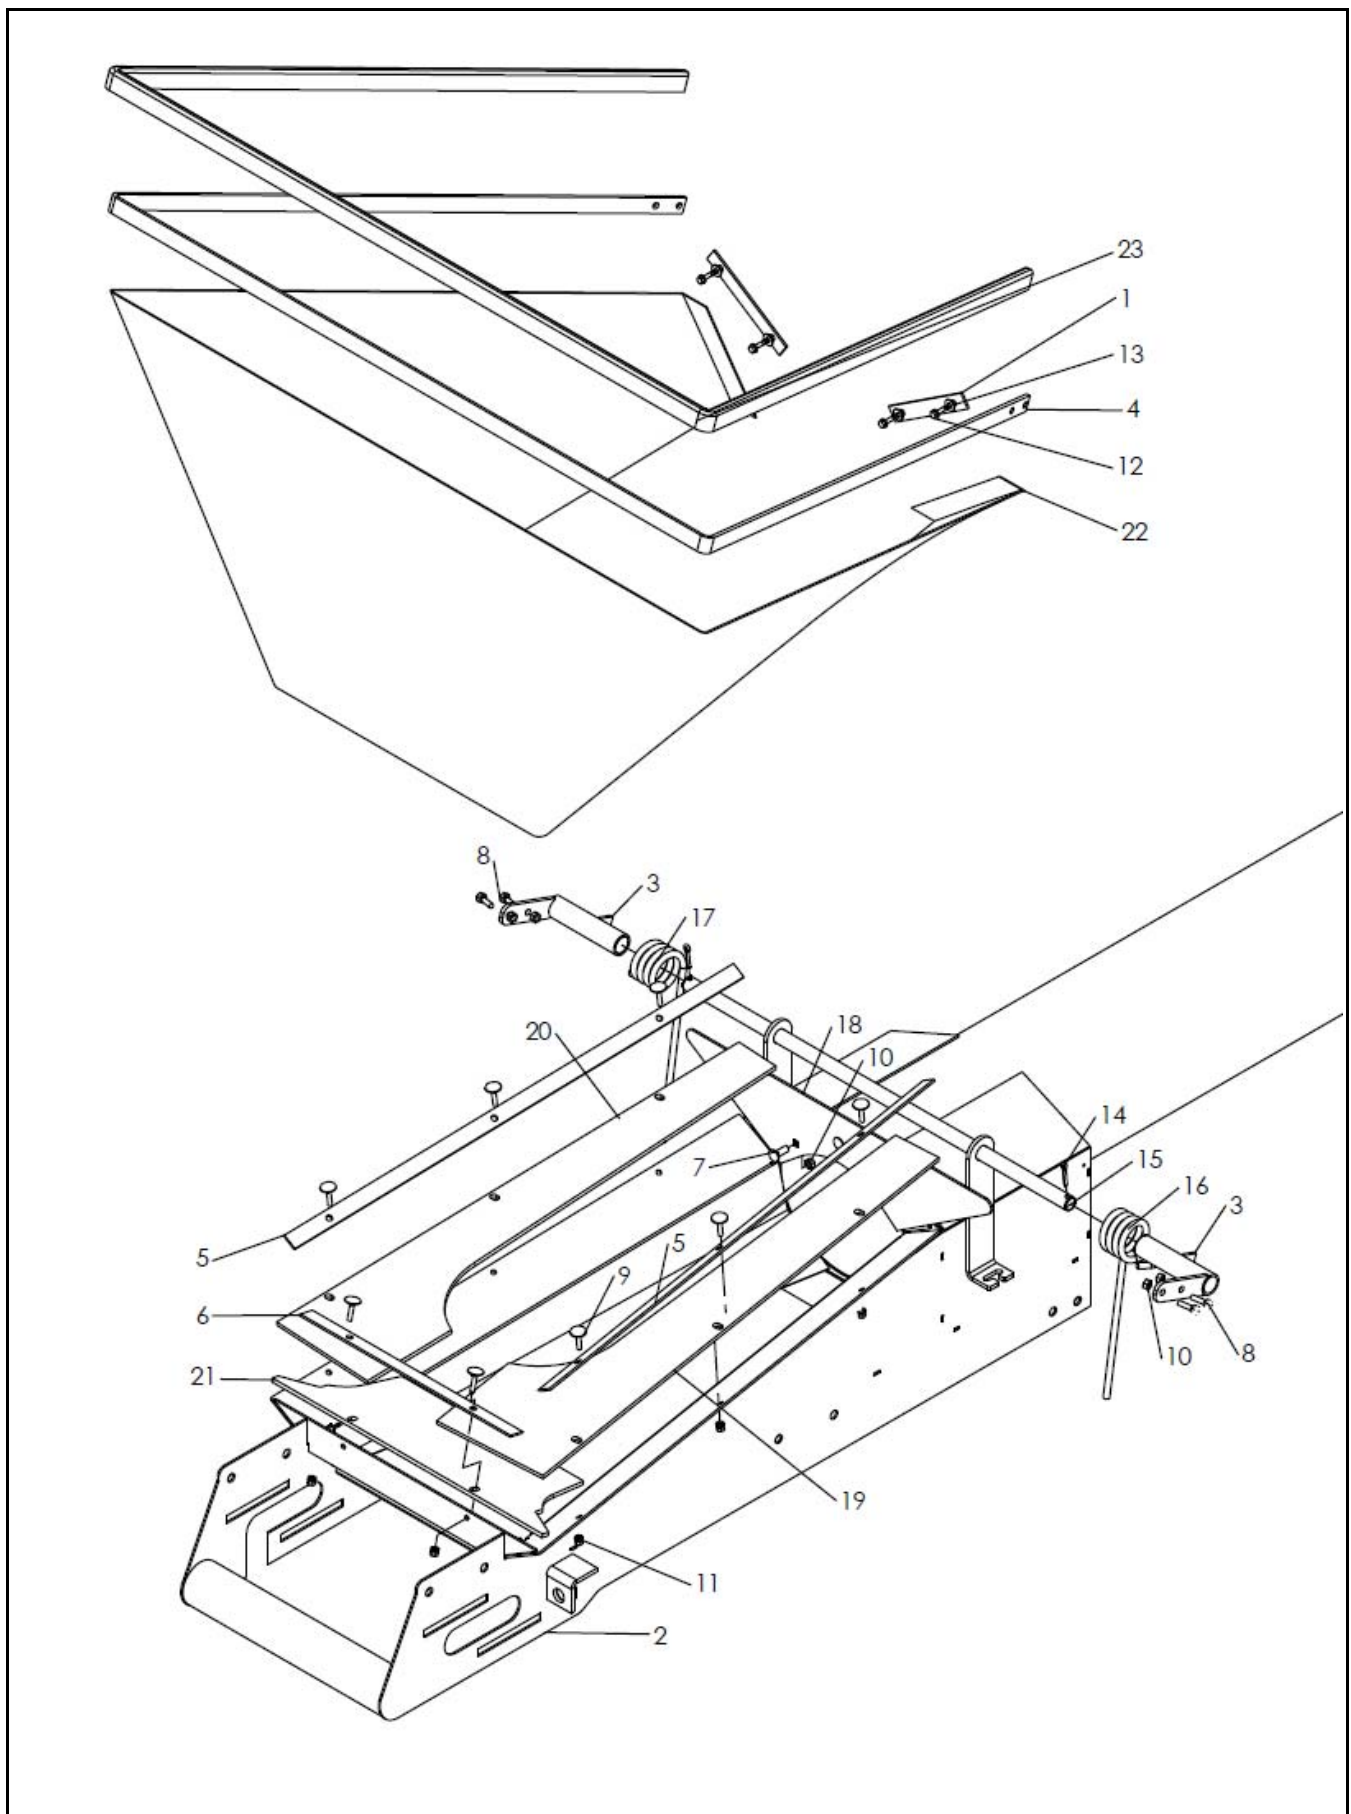

Figure 3.8
**Note:** Refer to Figure 3.5 to Figure 3.8 and Table 3.1 for the assembly of the cloth hopper.
3. Bolt the pivot shaft bracket (3) to the upper cloth frame (4) with 5/16" x 1" bolts (8) and 5/16" hex nuts (10). See Figure 3.8.